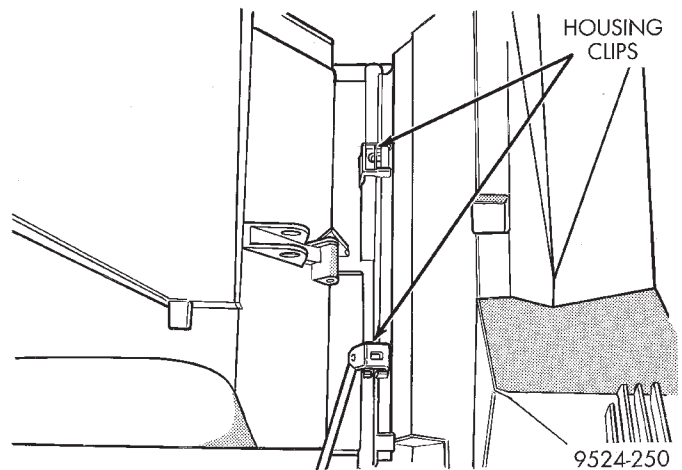

Fig. 36 Housing Clips
(3) Remove recirculation door inlet cover.
(4) Remove evaporator temperature probe.
(5) Remove clips retaining evaporator housing to heater/distribution housing (Fig. 36).